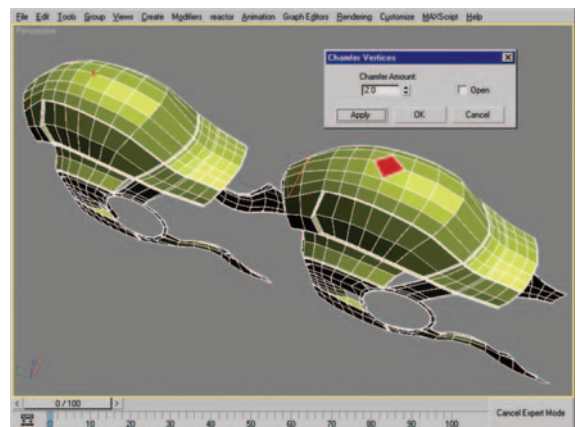

Figure 8.82 Vertex selection (left) and new polygon created by chamfering the vertex (right).
4. At the Vertex subobject level, select the vertex shown in Figure 8.82 (left) and use the Chamfer settings dialog box with a Chamfer Amount of 2.00 to create the new diamond-shaped polygons seen in Figure 8.82 (right).